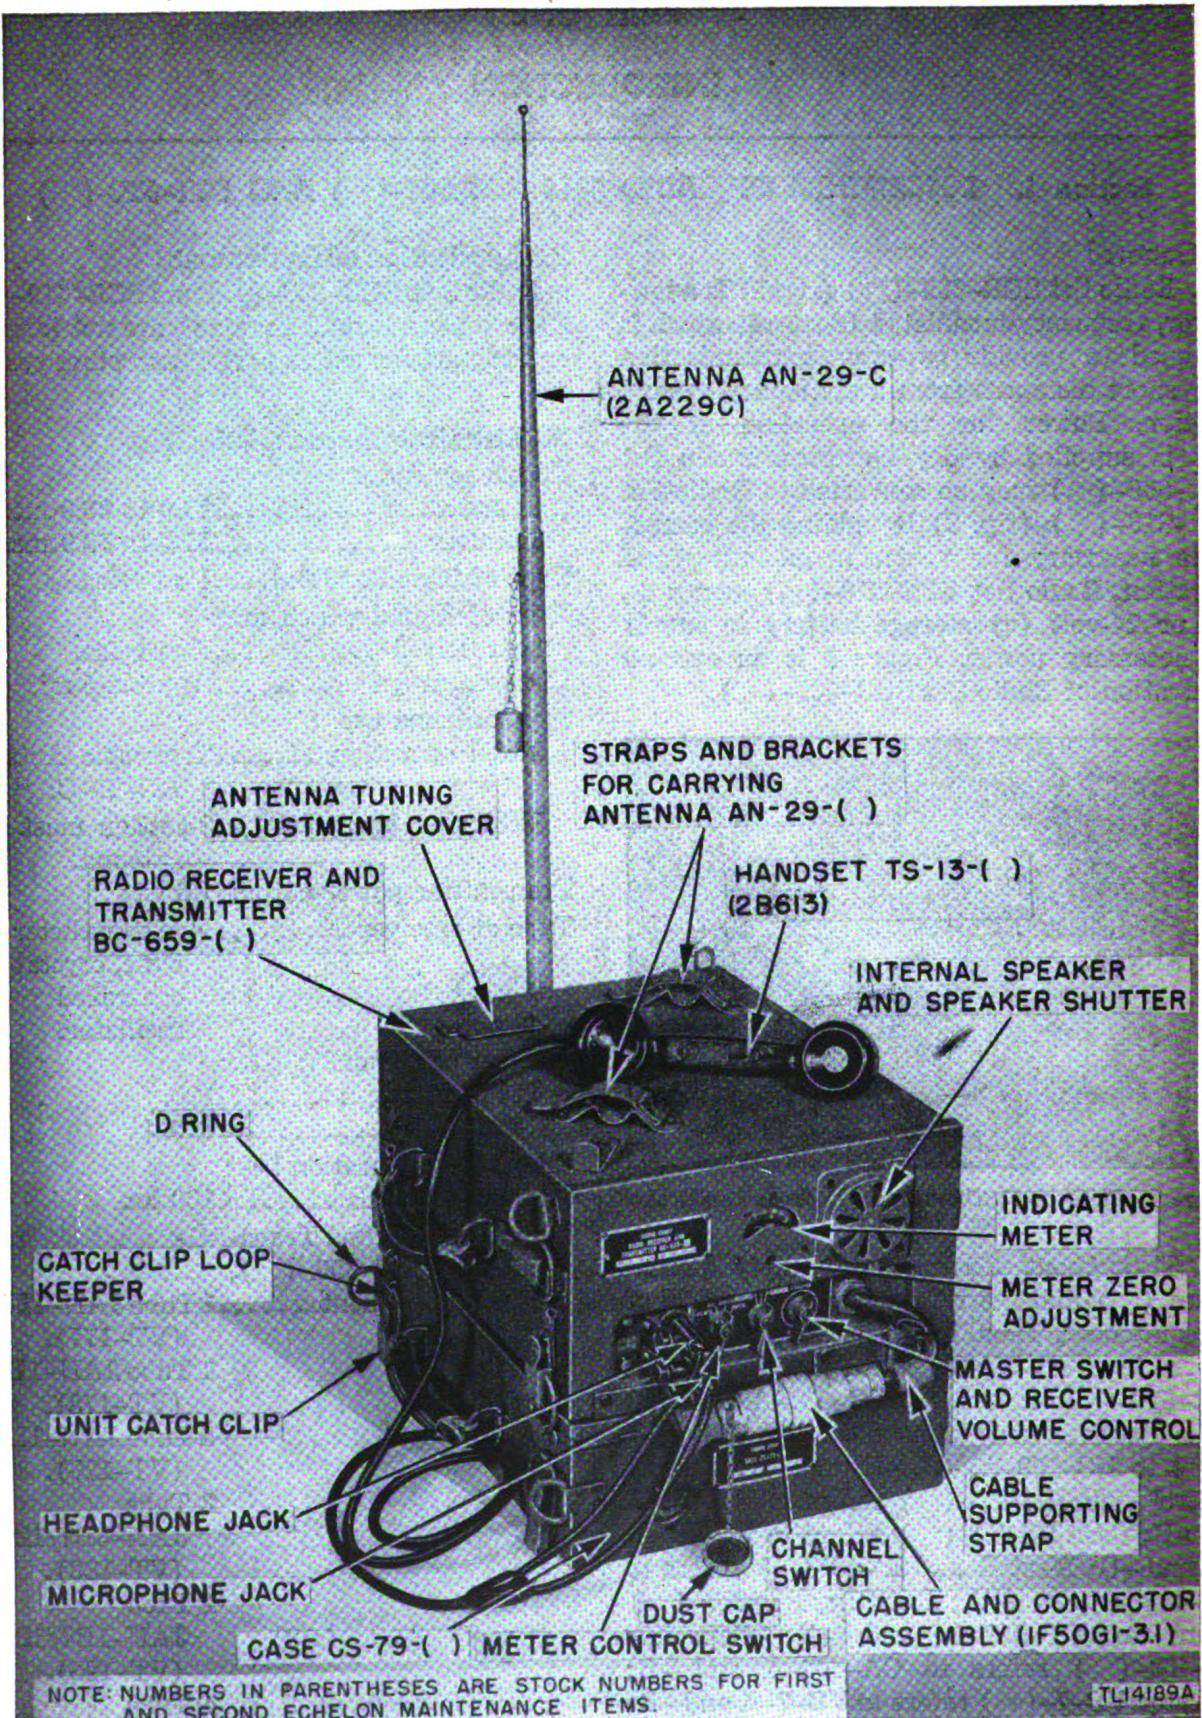

Figure 3. Radio Set SCR-609-(-), assembled for operation.
a. Radio Set SCR-609-( ) (fig. 1) is a low-power, frequency-modulated (f-m) set which is designed to provide two-way communication over short distances from a stationary ground position. Power for the operation of the unit is supplied by dry batteries. Radio Set SCR-609-( ) may be converted to Radio Set SCR-610-( ) (fig. 2) by adding the components necessary for vehicular mounting and operation. Radio Set SCR-610-( ) uses a 6-, 12-, or 24-volt (v) storage battery to supply the necessary power. Figure 3 is an over-all illustration of Radio Set SCR-609-( ).